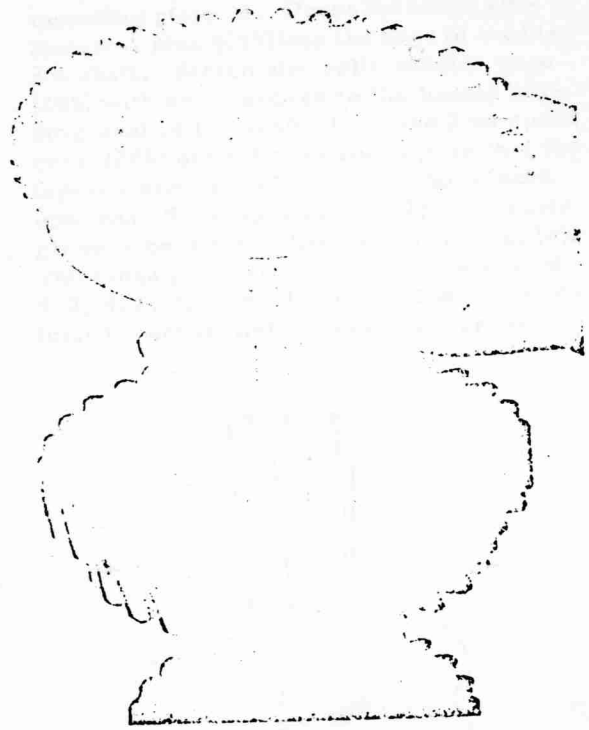

Fig. 32
2. Place the 2 nd speed gear (409) on a ground steel plate. Place inner ring (410), 1 st gear synchronizer (417) and spacer (408) on the 2 nd speed gear. Place a depth gauge on the spacer and measure the height from steel plate to spacer.
4. Press the appropriate spacer (408), the 2 nd speed gear (409) (collar facing downward) and the inner ring on the output shaft. Push needle cage (411) and 1 st speed gear (412) (with clutch body upwards) on the inner ring. Now press the pre-assembled synchronizer on the shaft so that the thrust plate faces upwards (Fig. 32).